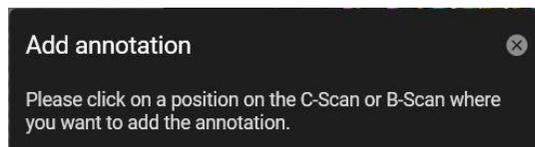

Fig. 35 Add Annotation pop up
2. Press on the  icon and the window Fig. 35 shall pop up asking to place the annotation on a specific point. Then, write down the note and press "ADD".